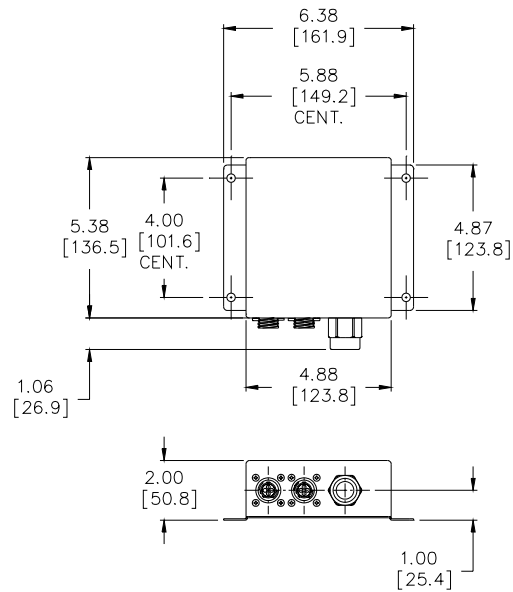

Figure 11: AC to DC Power Supply Outline Drawing
The AC- DC power supply is in a stainless steel enclosure which is remotely mounted. Capable of powering up to (2) 350/355 IS indicators in gas Groups C-G or IIB-IIA and (1) 350/355 IS indicator in gas Groups A-G or IIC-IIA. Refer to Figure 11 for mounting dimensions.